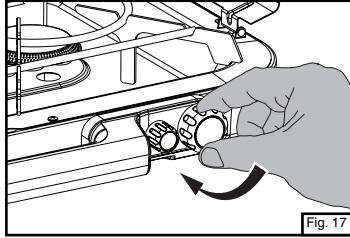

Fig. 17
- Close the burner valves firmly. (Fig. 17)